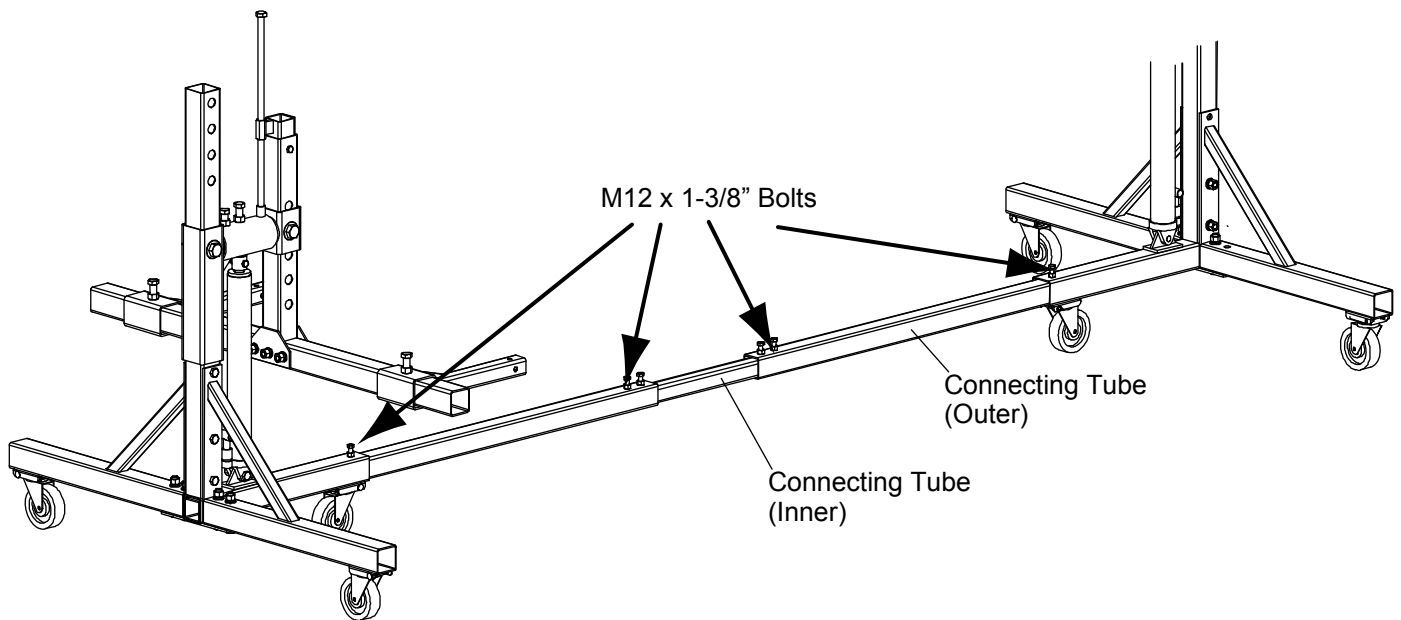

FIG. 4
8. Place the Connecting Tubes in the center of the Rotisserie unit end pieces and tighten bolts, Fig. 4. **NOTE: Leave one end loose until ready to lift vehicle.**